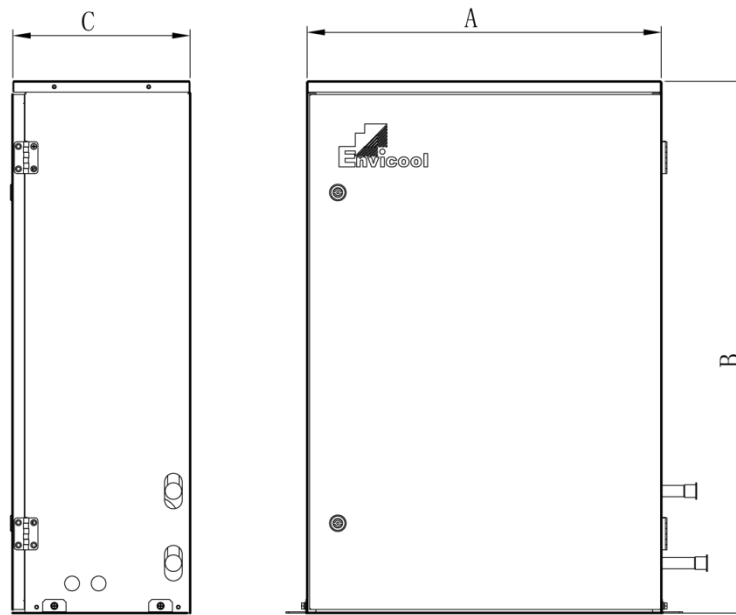

Fig. 2-5 Dimensions of IF pump cabinet
- For the IF pump cabinet outline dimensions, please refer to Fig.2-5 and Table 2-6.